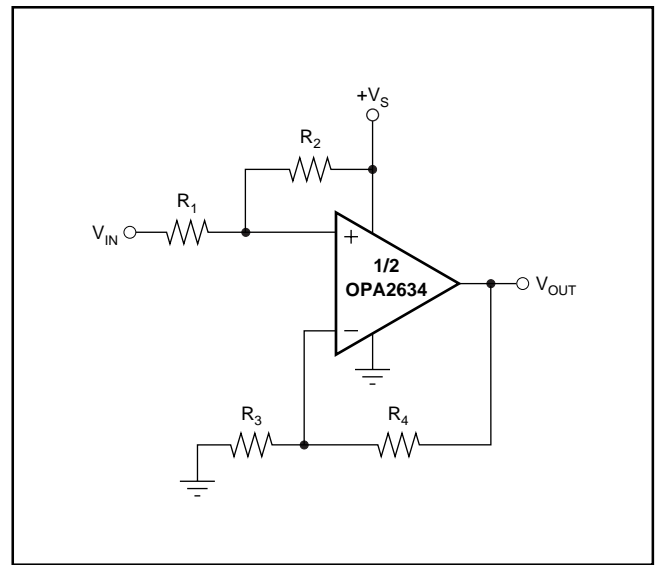

FIGURE 5. DC Level-Shifting Circuit.
Figure 5 shows a DC-coupled, non-inverting amplifier that level-shifts the input up to accommodate the desired output voltage range. Given the desired signal gain (G), and the amount V_{OUT} needs to be shifted up (ΔV_{OUT}) when V_{IN} is at the center of its range, the following equations give the resistor values that produce the desired performance. Start by setting R_4 between 200Ω and 1.5kΩ: